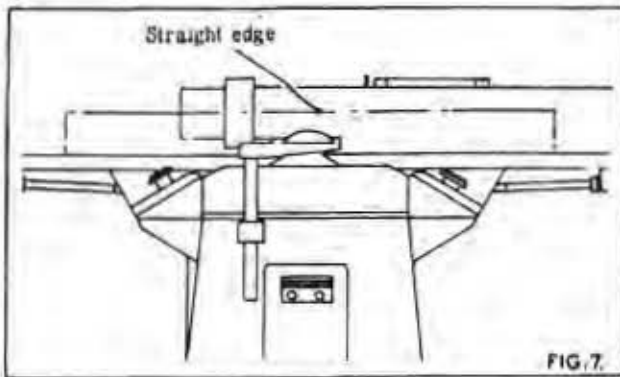

FIG. 7.
9. To check the setting of the knives, raise the back planing or 1/16 in. above the outer surface of the cutterblock. Place a straight edge on the table as shown in FIG. 7 and rotate the cutterblock by hand until the knife just touches the straight. Repeat this check in various positions over the width of the table to ensure the knife is parallel. Repeat this procedure for all knives.